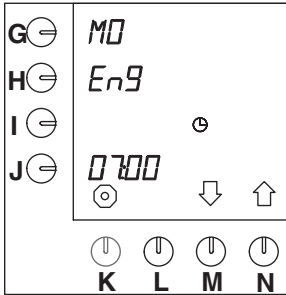

Fig. 41 Language setting
- After 10 seconds the default setting "EnG" appears flashing beside the programming key (fig. 41).